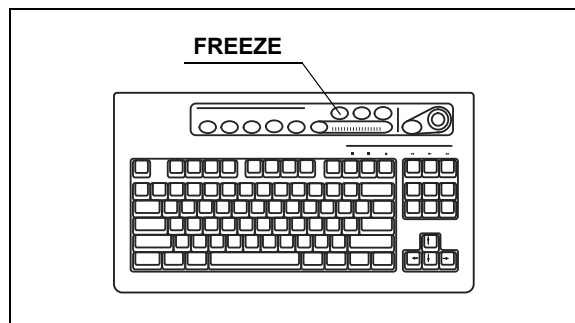

Figure 5.48
1. Press the “FREEZE” key (see Figure 5.48) to freeze the endoscopic image.